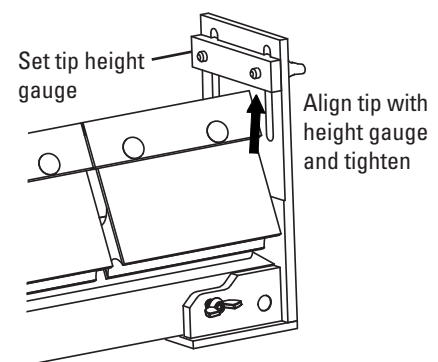

Fig. 2
position. The tensioner is shipped mounted in the push-up position. Depending upon the space constraints of the installation, the tensioner can be optionally mounted in a pull-up position. To do this, loosen the threaded rod lock nut, unscrew the threaded rod and remove adjusting bracket lock bolt. Then move the adjusting bracket and threaded rod to the top of the clamp blocks (Fig. 2) and tighten threaded rod lock nut.
4. Set the tip height gauge on the Cartridge Tip Alignment Tool so that the loosely installed tip can push up into the corner of the tool (Fig. 2).
5. Tighten the first tip while holding it tight to the Cartridge Tip Alignment Tool (Fig. 2).